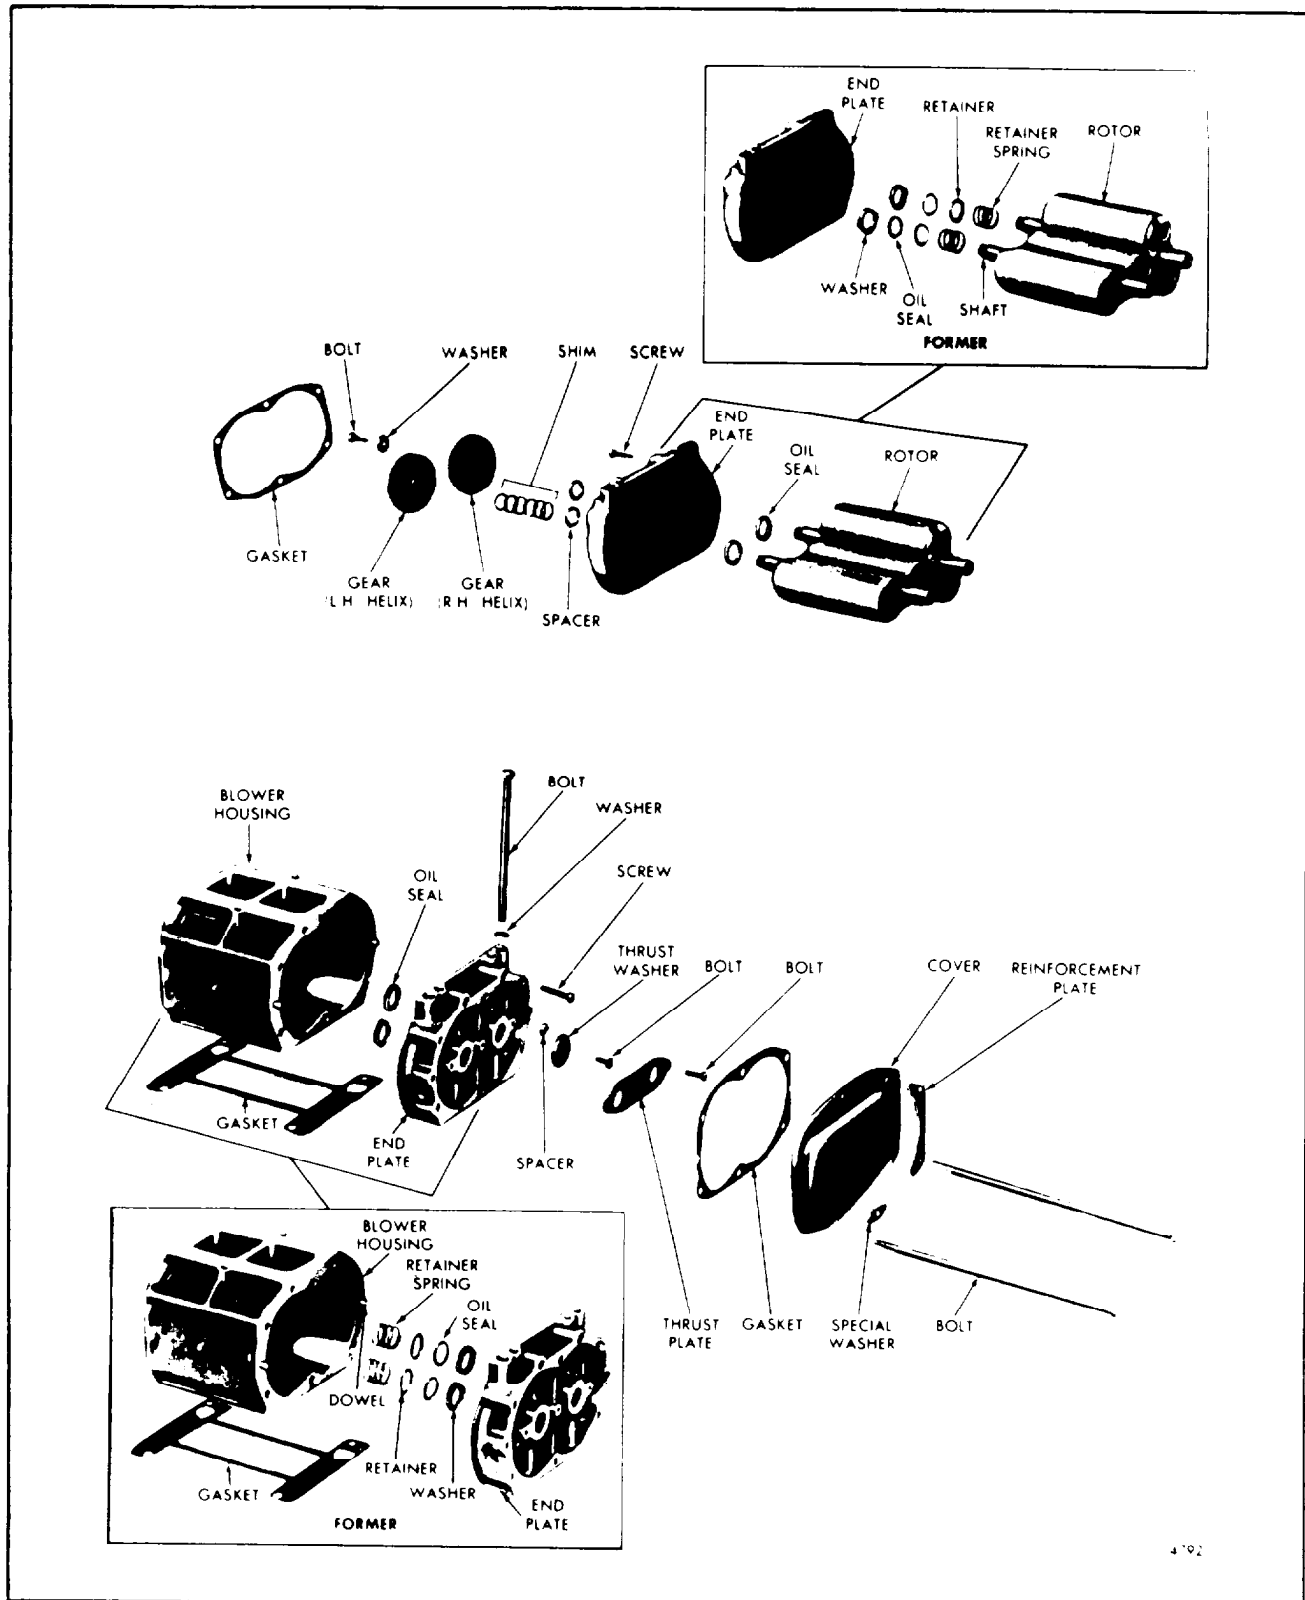

Fig. 7 - Typical Blower Details and Relative Location of Parts (3.53 Engine Blower)
4. At the other end of the blower, remove the three thrust plate bolts, the thrust plate and three spacers from the front end plate. Remove the bolts and thrust washers (refer to Fig. 7).
Refer to Fig 7 and assemble the blower as follows: